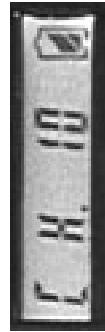

Fig 8
- Touch the CH/ON key slightly to select the edited parameter of Channel (refer to Fig 8), then use the SELECT key to specify the proper channel.